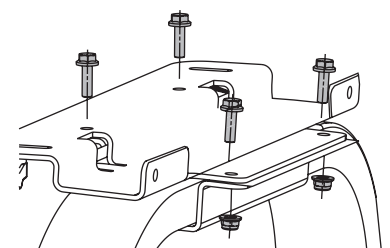

Figure 5
3. Slot in 4 hex head bolts (Item #1) into the indicated holes and screw on 4 hex nuts (Item #4). See Figure 5.